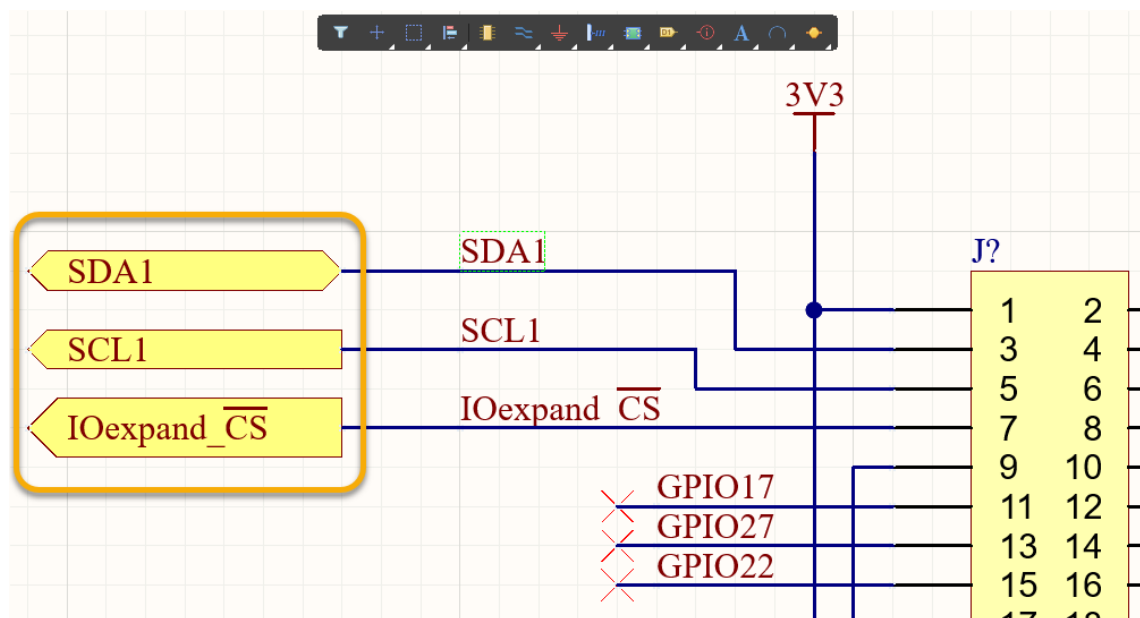

Figure 27. Signal Ports
27. Continue to place the remaining two ports as shown in *Figure 27*. Port **SDA1** should be set as **Bidirectional**, and port **SCL1** should be set as **Output**. Ports will automatically show their I/O type direction (such as Input, Output) once the placement is complete. The best way to place ports, is to set the I/O Type in the Properties panel during initial placement, although it is still possible to change port properties after placement.